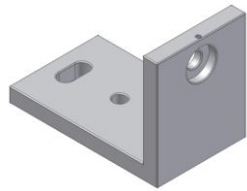

Figure 1 - 007-33336-600
3. Locate the Clamp Block (Figure 16 - P/N 529-33334-600), the Support Post (Figure 3 P/N 020-33338-600), the Camera Mount Bracket (Figure 1 - P/N 007-33336-60) and install as shown in Figure 27 using (three 10-32 Tee Nuts and 10-32 x 5/8" long SHCS) and one 10-32 Adjusting lever (Figure 15 - P/N 172-24280) to hold the support post.